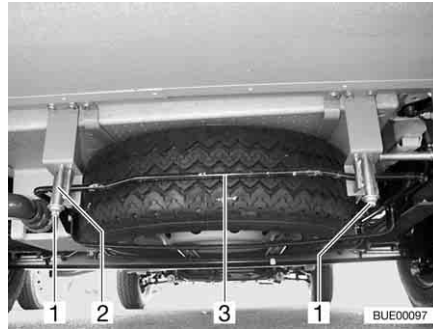

Fig. 239 Spare wheel support (basket)
- Loosen the nuts (Fig. 239,1) on the right and left rear hooks (Fig. 239,2) of the spare wheel support.
- Pull the bar (Fig. 239,3) slightly upwards. At the same time, pull down the hooks and unhook the bar.